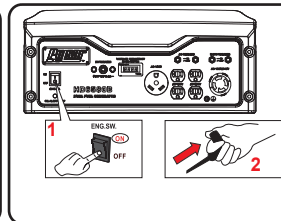

Fig 11 Recoil Start
- Push the ON/OFF switch to the "ON" position. Pull the recoil starter grip slowly until resistance is felt, return, then pull rapidly. (See fig 11)